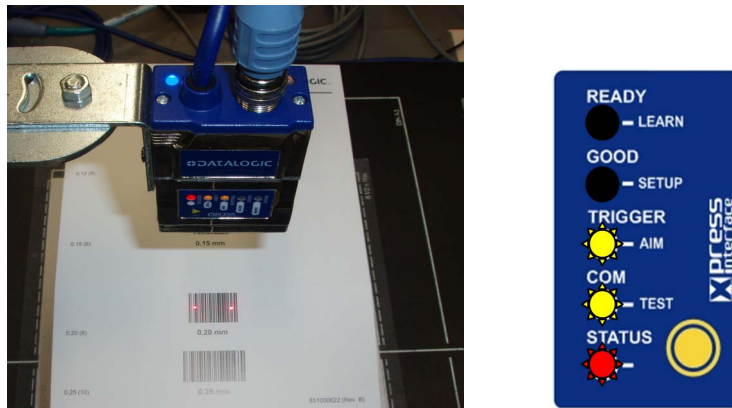

Figure 8 - X-PRESS Interface: Aim/Autofocus Function
4. Release the button to enter the Aim function. The laser pointers turn on, and the Autofocus procedure begins, see Figure 8. The Aim LED will blink until the procedure is completed.